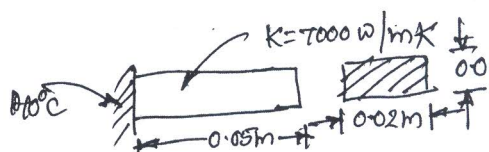

Fig.Q8(b)
b. Determine the temperature distribution in rectangular fin as shown in Fig.Q8(b). Assume steady state and only conduction process. Take heat generated inside the fin as 400 W/m^2 .